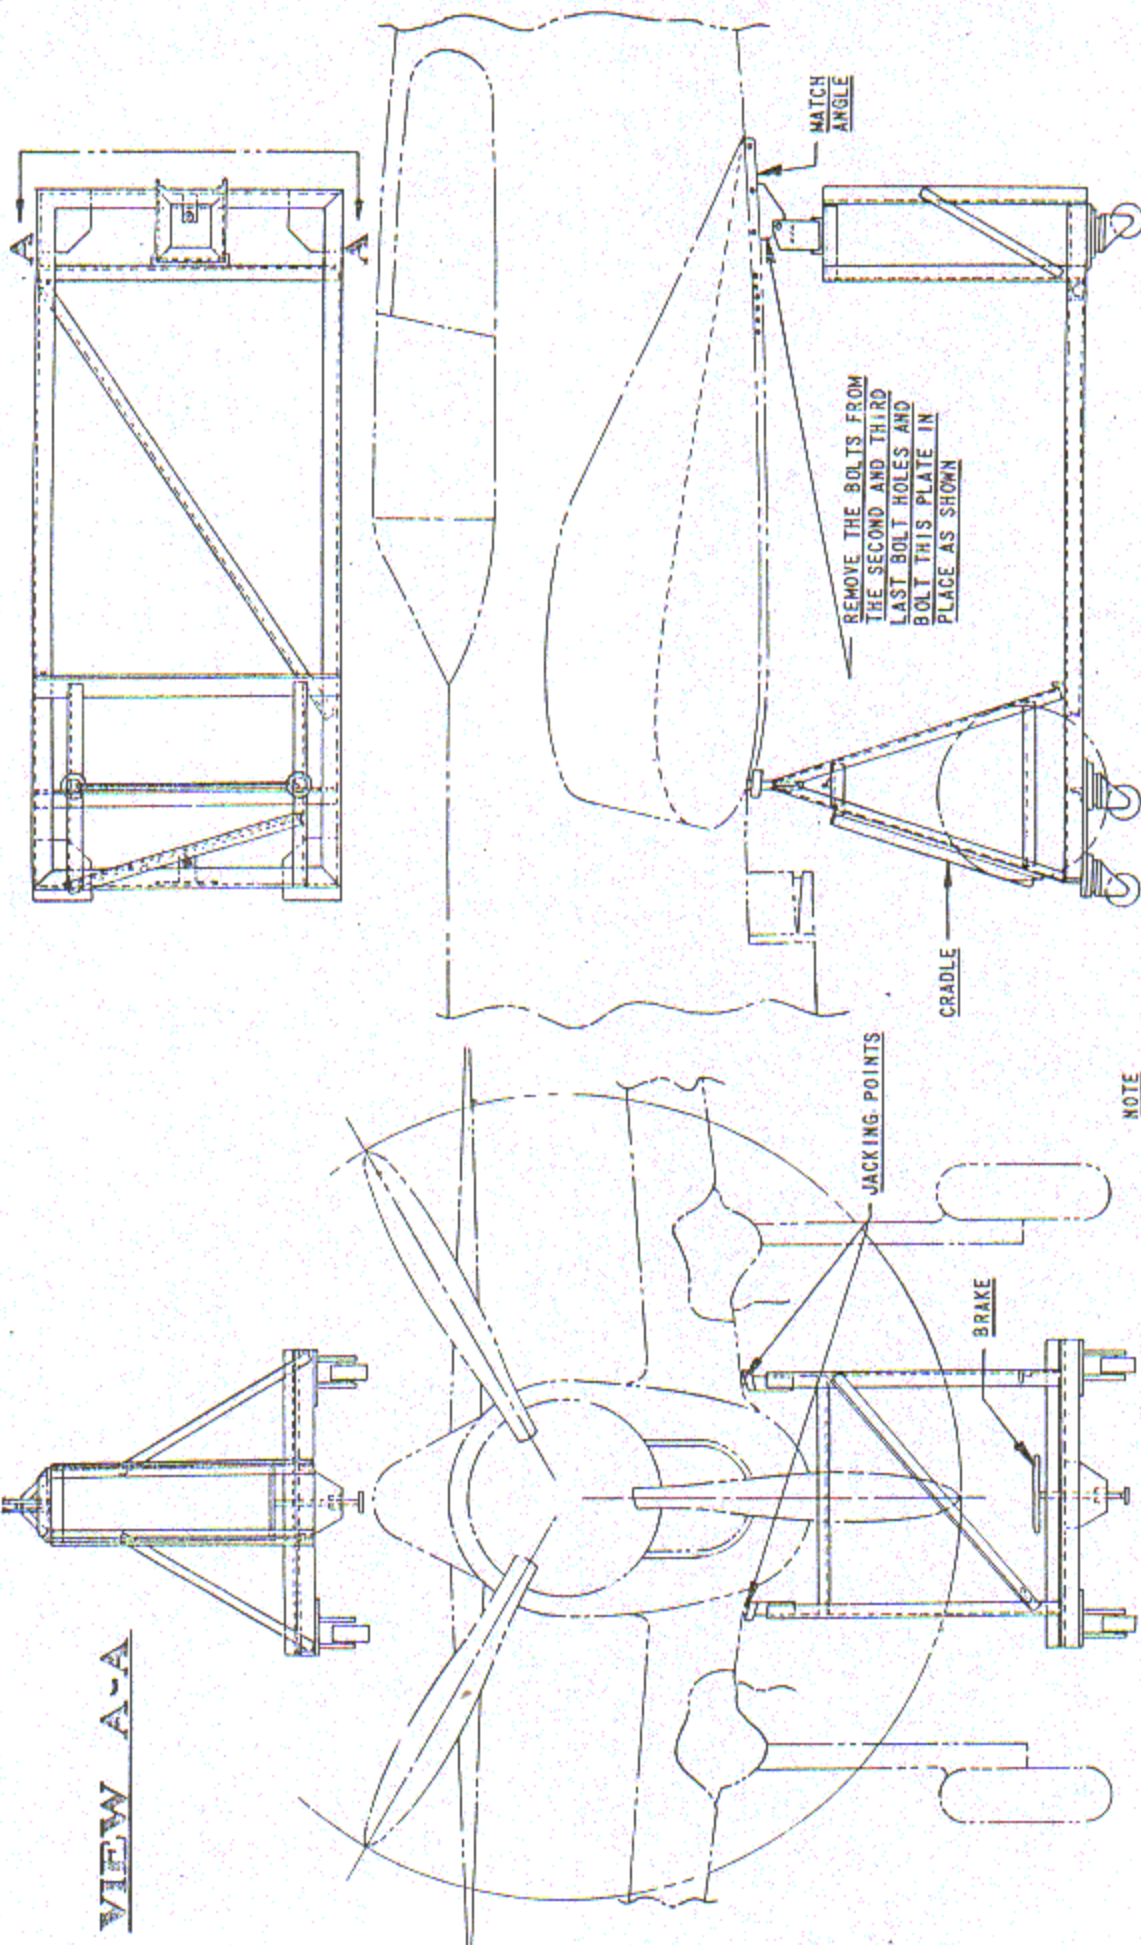

FIG. 23 - AIRPLANE CRADLE
(2) The wing tips are detachable for replacement in the event of damage; the tips are attached to each wing panel by a series of flush type screws.
(3) Wells in the underside of the wing accommodate the fuel tanks and landing gear wheels. The joint where the two wing panels are joined will serve as a skid in an emergency landing with the wheels retracted.
(4) The ailerons are dynamically balanced incorporating Frise-type aerodynamic balance. The right hand aileron trim tab is the fixed type. The left hand aileron has an electrically operated adjustable trim tab controlled by a switch on the main switch panel. The ailerons are constructed of metal, including a stressed skin leading edge, and are fabric covered. Three mounting hinge bearings are provided on each aileron.
(5) Hydraulically-operated, split-trailing edge type wing flaps extend from within a few inches of the airplane center line to the inboard end of the ailerons. They are attached to the wing by a continuous piano type hinge running the full length of each flap leading edge.
b. Removal and Disassembly. - (1) To Remove the Complete Wing: It is recommended that a cradle similar to the one shown in Figure 23 be used for the support of the airplane and subsequently for the support of the wing after separation from the fuselage. If a cradle of this type is not available, then a padded chordwise support, at least five inches wide and curved to fit the underside of the wing, should be placed approximately eight feet three inches outboard from the airplane center line under each wing panel.